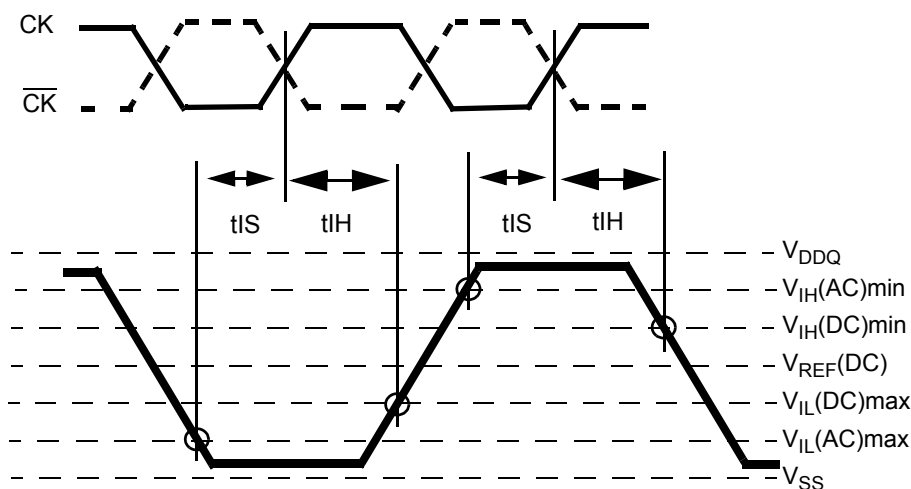

Figure 19 - Differential input waveform timing -  $t_{IS}$  and  $t_{IH}$
22. Input waveform timing is referenced from the input signal crossing at the  $V_{IH}(AC)$  level for a rising signal and  $V_{IL}(AC)$  for a falling signal applied to the device under test. See Figure 19.
23. Input waveform timing is referenced from the input signal crossing at the  $V_{IL}(DC)$  level for a rising signal and  $V_{IH}(DC)$  for a falling signal applied to the device under test. See Figure 19.